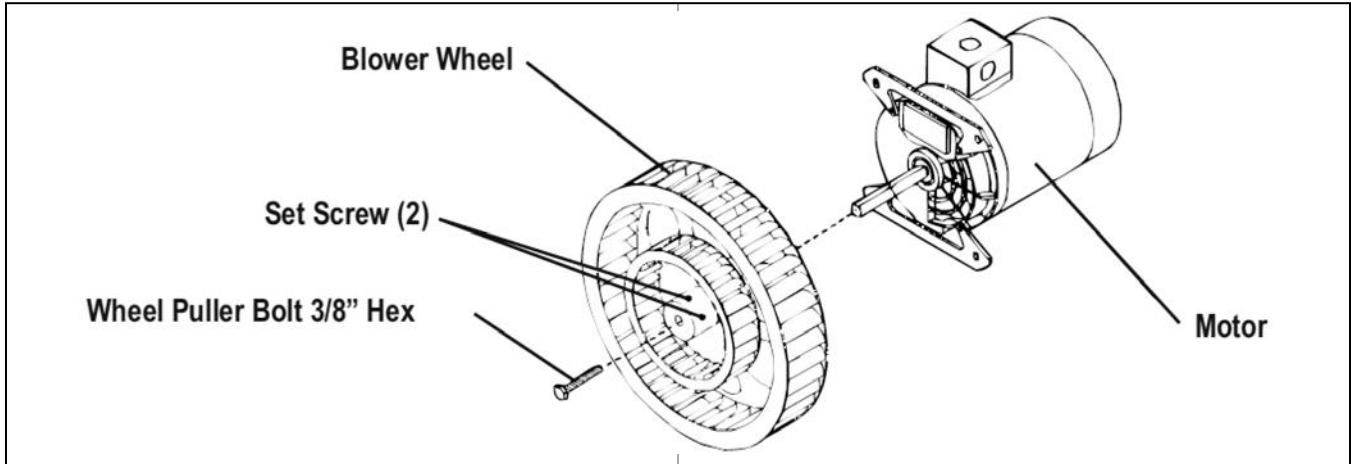

Figure 2: Cleaning The Blower Wheel
To clean the blower wheel, remove and immerse in ammoniated water for 20 to 25 minutes. Then, scrub it off with a small, stiff brush. The same procedure can be followed for wire racks and rack supports. To remove the blower wheel, loosen the set screws (2) on the hub of the blower wheel and tighten the 3/8" wheel puller bolt (supplied) in center of hub (See Fig. 2).